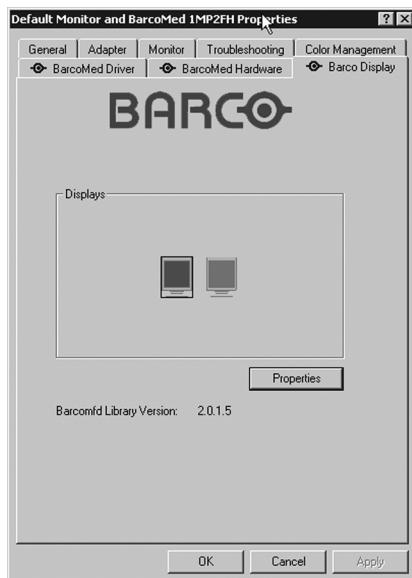

Figure 38: BARCO Display Tab under Windows® 2000 and Windows® XP
2. Under Windows® 2000 and Windows® XP, click on the “**Settings**” tab. Double click on the rectangle that represents the BarcoMed Display you are working with to bring up its properties page. Click on the “**BARCO Display**” tab (figure 38).